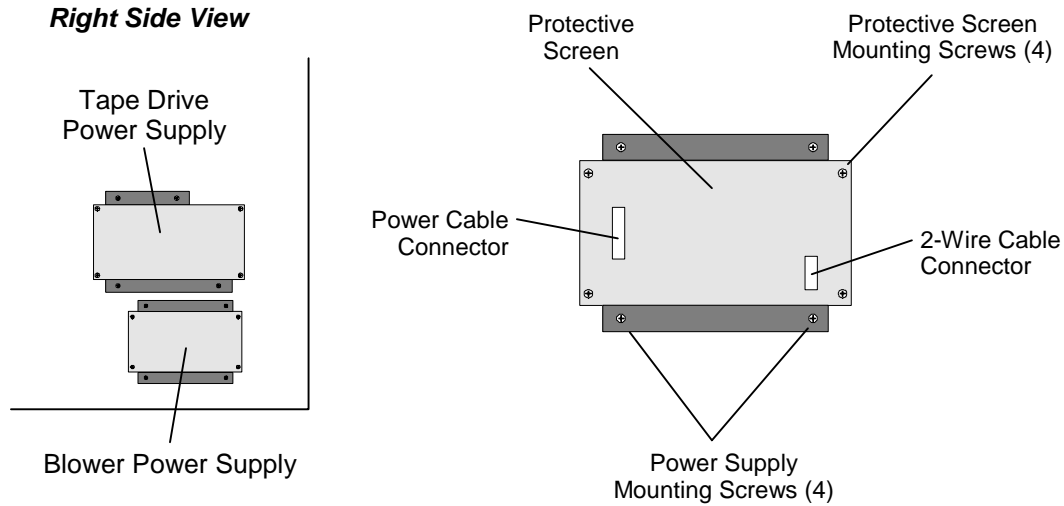

Figure 7-33 Blower Power Supply
Refer to Figure 7-33.
1. Position the Power Supply into place in the side of the TLS. Make sure that the Power Cable connector is on the left and the 2 Wire Cable connector is on the right. See Figure 7-33.